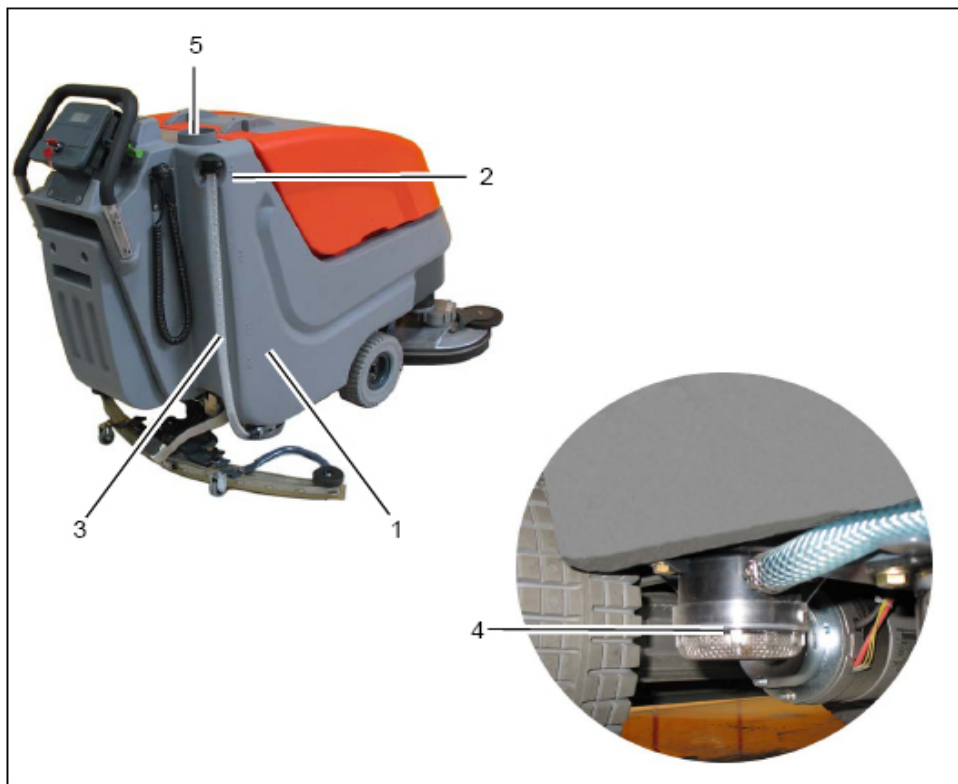

Fig.8
Fill Clean water tank (Fig. 8/1) before operation or as required. Park vehicle on level ground. Open tank lid (Fig. 8/5) and fill tank with Clean water up to the maximum (1/1 marker) (Fig. 8/2).
Alternatively, filling of the machine via quick coupling (Fig. 8/6) is available. Before doing so, connect the filling hose of the metering unit to the quick coupler. The floater valve automatically closes after the maximum filling level has been attained.
Park vehicle such that the fill level hose (Fig. 8/3) is located above the drain aperture in the floor. Take fill level hose from holder and remove cap.
Check clean water filter (Fig. 8/4) at weekly intervals. Clean or replace if required.
1. To Empty clean water solution tank (Fig. 8/1) see paragraph 5.5.2.